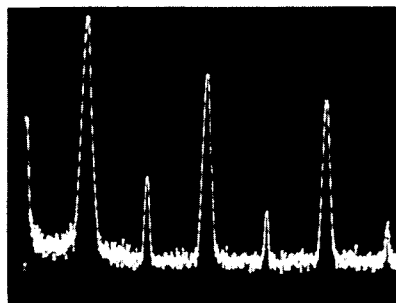

Figure 5—3. Triangle Adjustment: HF
- 8.3 Adjust A15R37 for minimum 2nd harmonic. (Figure 5—3). Then turn CW to verify level is 50 dB below fundamental.